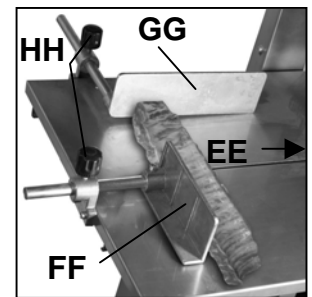

Figure 17
Place the meat on the stainless steel table and position it between the saw blade in front (EE, out of picture), the pusher (FF), and the fence (GG) on the left. Note: The fence and the pusher have adjusting knobs (HH) allowing you to adjust the placement of both, depending on the size of the piece of meat. (Figure 17)